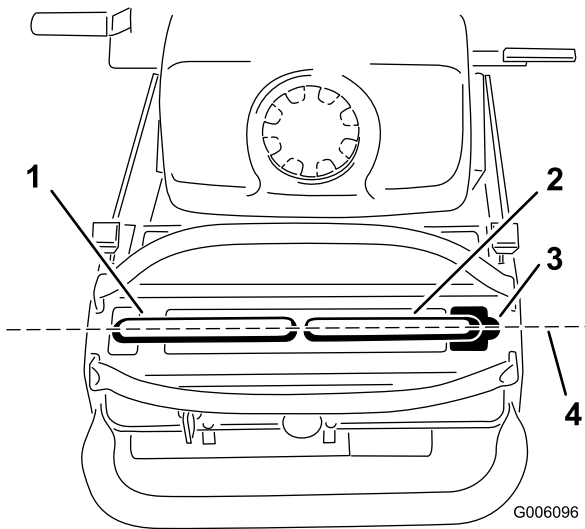

Figure 44
Important: Ensure the tracking of the mower is correct after adjusting the motion-control levers. After adjusting the tracking, the motion-control levers may not align the exactly front to back (Figure 44).
- After the horizontal alignment is finished, check the front to back alignment (Figure 44).